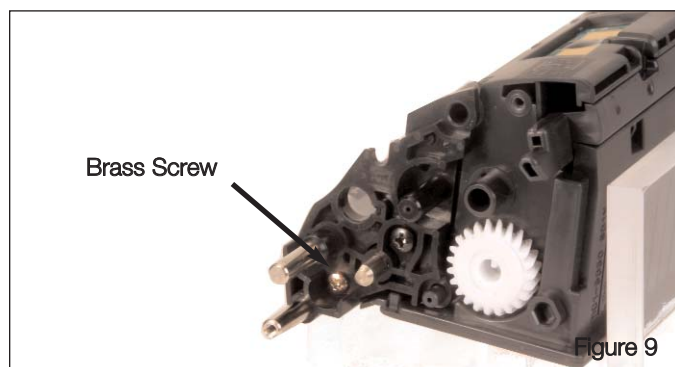

Figure 9
**Note:** Be sure to note the location of the brass screw. It must be re-installed in the same location during reassembly. See Figure 9.